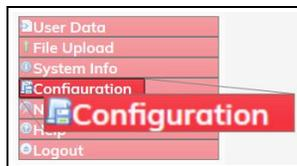

Figure 164: Configuration link
4. On the **Menu** list, click the **Configuration** link. Figure 164